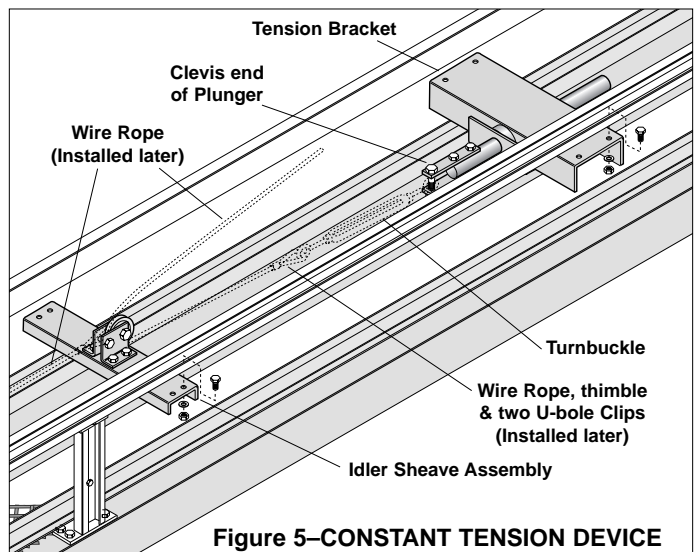

Figure 5—CONSTANT TENSION DEVICE
1) Clamp tension bracket (Fig. 5) to underside of C-channel in location shown on assembly print with holes centered along flange width.
3) Clamp idler sheave assembly (Fig. 5) to underside of C-channel in location shown on assembly print with holes centered along flange width. Drill holes and secure as with tension bracket.